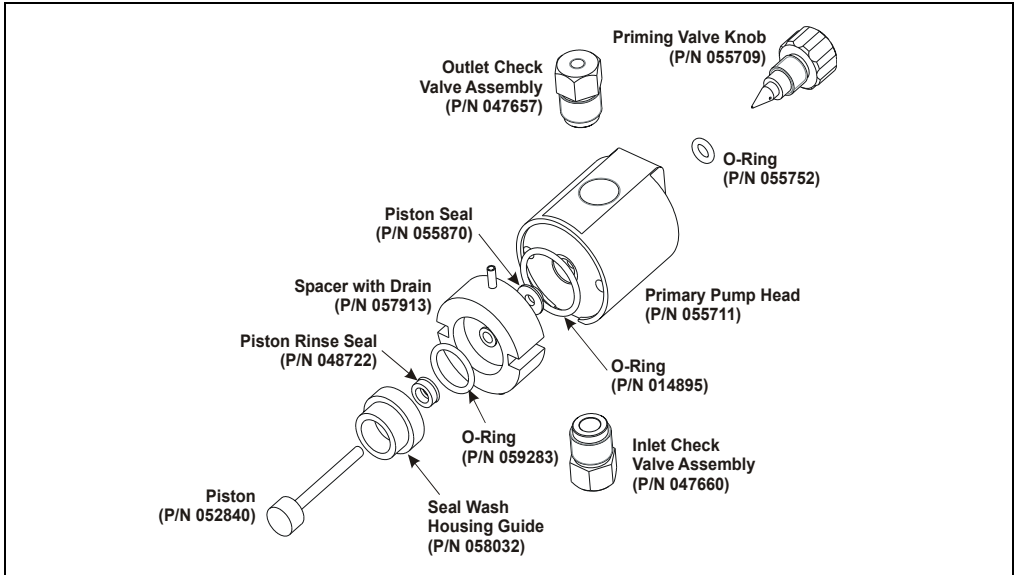

Figure 5-2. Primary Pump Head
5. Place the head (front end down) on a clean work surface and lift off the spacer to expose the piston seal (see Figure 5-2 or Figure 5-3).